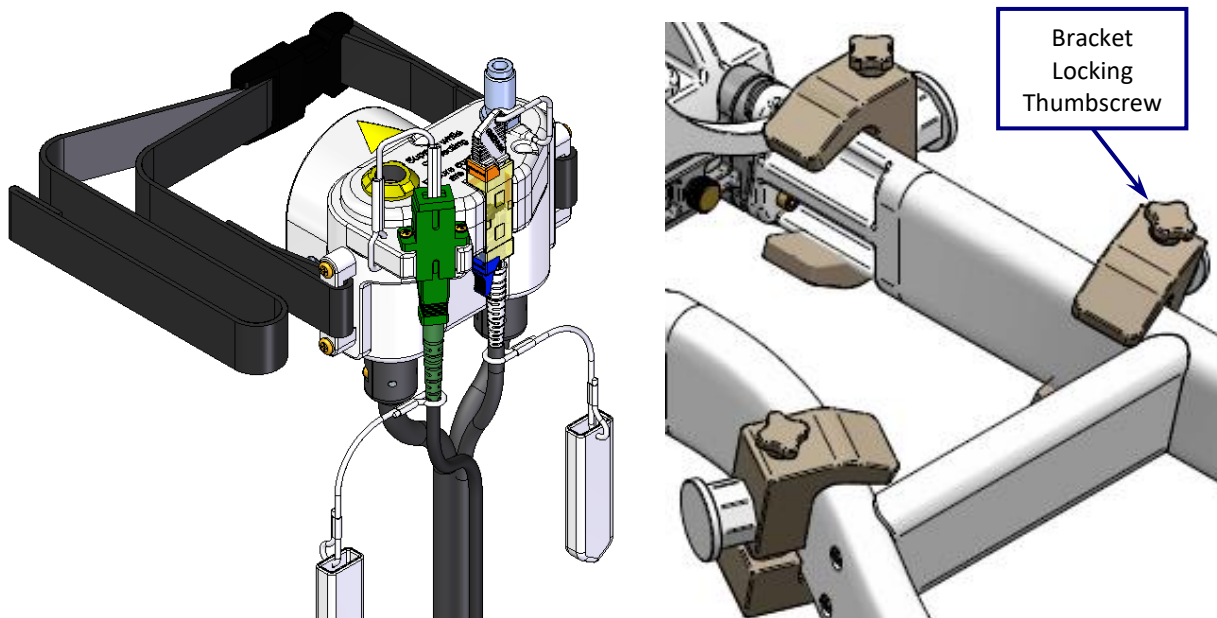

Figure 8.47: Portable Connector Module with Strap (left); Mounting Bracket Assembled to IP Arms at Multiple Positions (right)
The portable connector module (PCM) (Figure 8.47) can be placed in multiple positions along the Interface Platform (IP) arms via an adjustable bracket or on the IP housing itself. A strap is provided as redundant securement to the IP arms as well as for storage. The bracket is attached to the IP arm as shown in Figure 8.47 (right) and engaging the bracket locking thumbscrew finger tight.